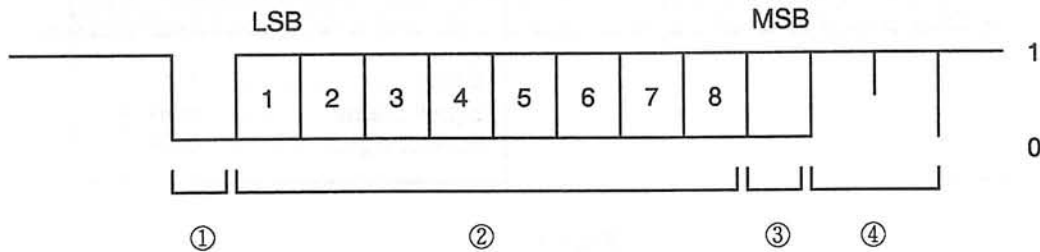

Fig.3-3 Bit Configuration
In the asynchronous transmission mode, one character is transmitted with the preceding start signal and the succeeding end signal. The transmitted character is composed of a start bit ①, the eight data bits ②, a parity bit ③ and two stop bits ④ as shown in Fig. 3-3.